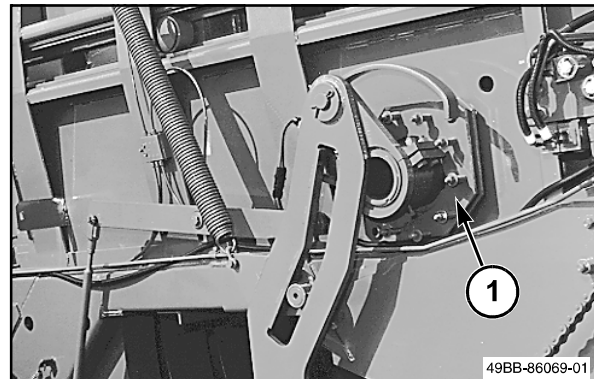

FIG. 20
FIG. 20: The stuffer brake (1) holds the stuffer fingers in the home position when the stuffer clutch is disengaged. The stuffer brake must slip during each stuffer cycle. If adjusted too tight, the stuffer brake will become hot.